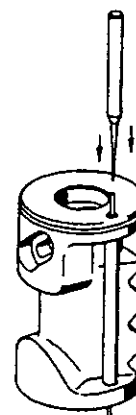

Fig.12
- 7.3.1 Versions with caulked valve insert (109) - steering limiter valve
Position piston (101) upright so that the caulking on valve insert (109) points upwards (*Fig.12*).